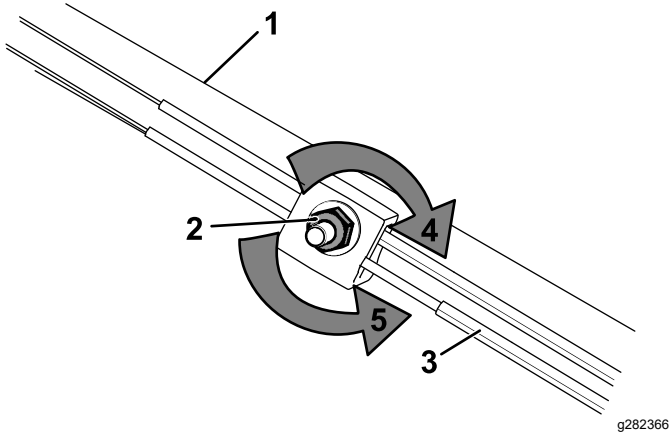

Figure 50
1. Turn the adjustment nut counterclockwise to loosen the cable adjustment (Figure 50).
2. Adjust the tension on the cable (Figure 50) by pulling it forward or pushing it back and holding that position.